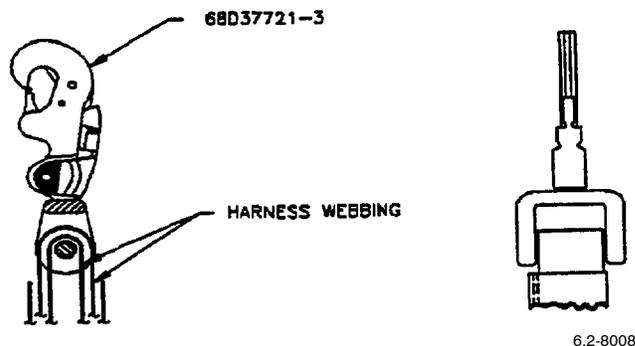

Figure 3. Routing of Quick Ejector Snap
(2) Lace webbing over large side of moving bar, and webbing tensioner, and back over bar so that lip on V-ring frame is against webbing.
(3) Refold end of strap (two folds) 1 1/2-in. and machine cross box stitch in place, with size 6 thread.
b. Insert new roller thru loop in chest or leg strap (Figure 3 and 4).